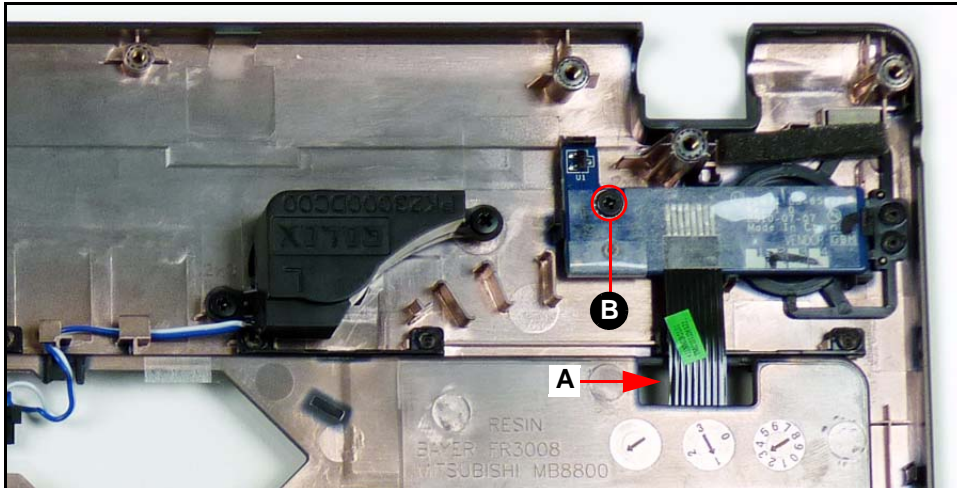

Figure 3-22. Power Board
2. Remove power board FFC (Flat Flex Cable) (A) from upper cover. (Figure 3-22)
3. Remove one (1) screw (B). (Figure 3-22)
2. Install power board FFC (A) on upper cover. (Figure 3-22)
3. Install and secure one (1) screw (B) to lower cover. (Figure 3-22)